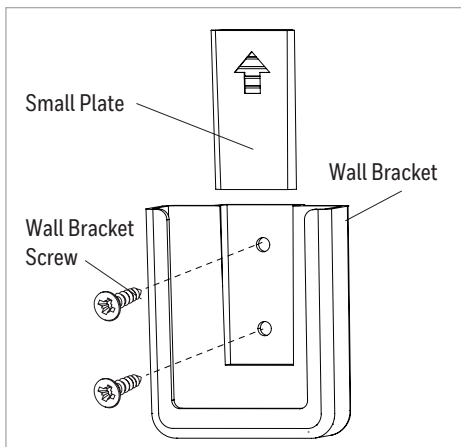

Figure 5.7
7. Remote control comes equipped with a wall bracket. If you wish to install the wall bracket, remove the small plate to expose the screw holes. Insert wall brackets screws through holes and into wall, then cover with the previously removed small plate. The remote can be stored in the wall bracket for easy access (Figure 5.7).